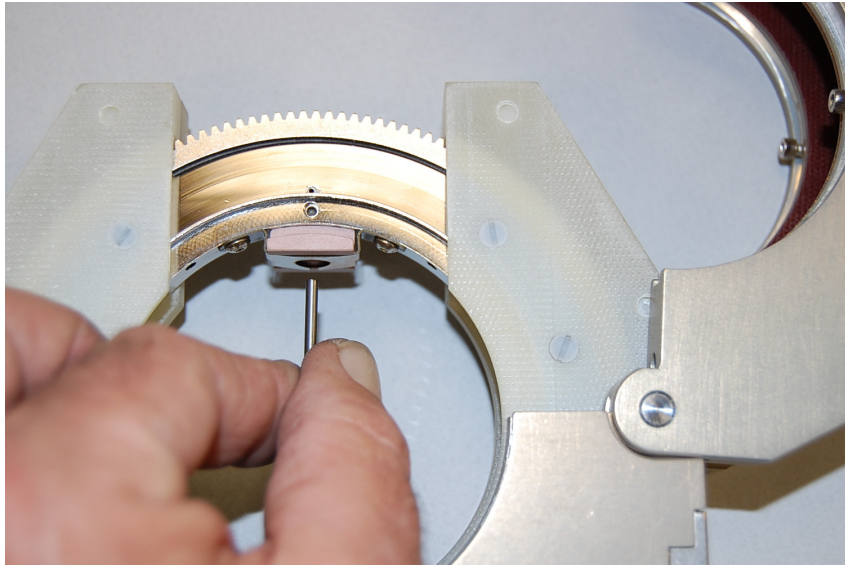

Fig. 12
- 7.3 Using the "JOG" button on the power supply or remote operators pendant, jog the rotor around until the electrode (or electrode mounting hole) is in the 12 o'clock position. See fig. 12.